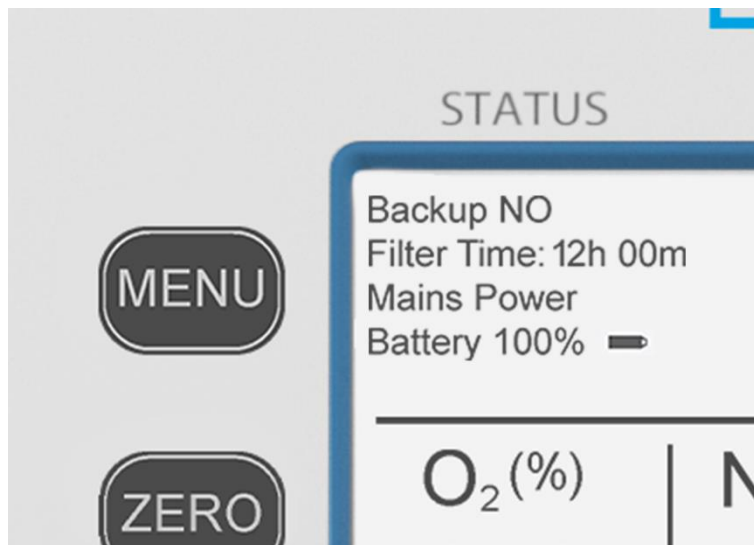

Figure 39: Backup NO notification in the STATUS Section of the screen
- ‘Backup NO’ message will appear in **STATUS** section of the screen (see Figure 39).